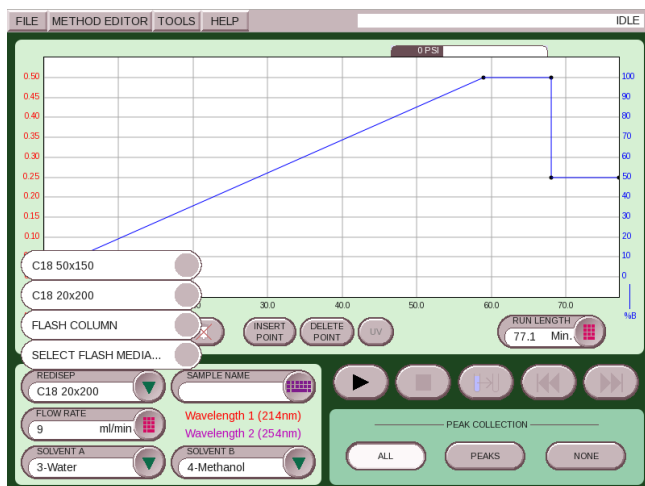

Figure 3: Main Prep Screen
9. Select PREP HPLC COLUMN from the menu. The default column defined in the CONFIGURATION screen will appear in the REDISEP box. To change to another predefined Prep column, press the REDISEP DOWN arrow a second time. Choose the desired column from the displayed list (Figure 3).